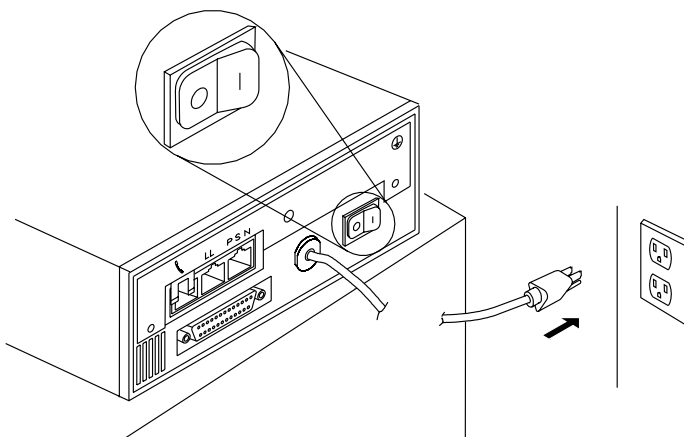

Figure 1-19. Connecting ac Power
1. ____ **Be sure** that the **power switch** located on the modem’s rear panel is **off** as shown in Figure 1-19 on page 1-16.